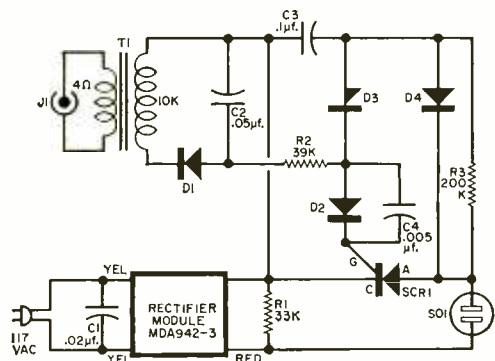

Fig. 1. Ratio of "on time" to "off time" of SCR1 changes in step with music levels, and brightens or darkens different colored bulbs plugged into SO1.
**How It Works.** Sounds fed into *J1* are stepped up by *T1*, rectified by *D1* and filtered by *C2* only to become a control voltage for trigger diode *D3*. (See Fig. 1.) It takes 30 volts to make *D3* conduct. The time required to build up 30 volts on *C3* depends upon the amplitude of the sound and the values of *C3* and *R2*. The louder the sound, the quicker the voltage buildup; the larger the re-